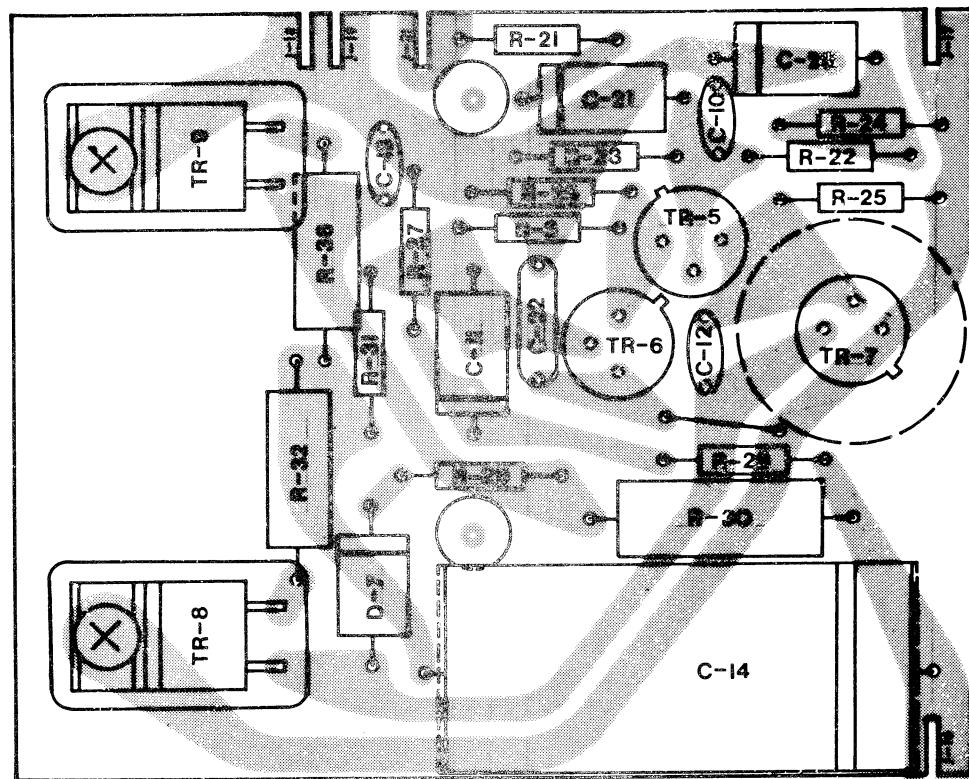

Figure 2-26 POWER AMPLIFIER BOARD ASSEMBLY
* No longer available. Replaced with 43957-G1. See Figure 2-26.